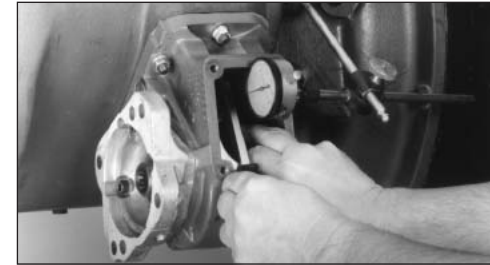

Fig. 4
2. Mount the dial indicator so that it registers movement of the input gear (driven gear) of the P.T.O. (Fig. 4).